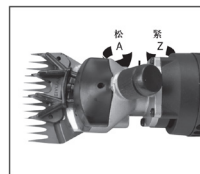

Fig.2
- Clean the dirt from the blades. After completing the shearing of a sheep, turn the nut counterclockwise (Fig. 2) until the blades can be removed. When removed, clean off any dirt that has accumulated on the lower blade as well as on the inside of the upper blade. In this way, the two blades can fit well.
- Adjust the tightness of the blades by turning the adjusting nut clockwise (Fig.2) until you feel the resistance. Turn the adjusting nut counterclockwise to loosen the blades (Fig.2).